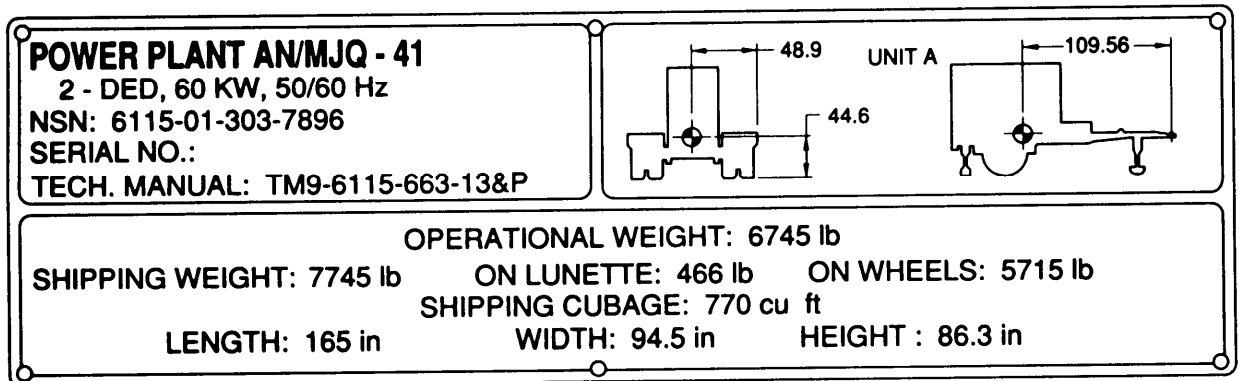
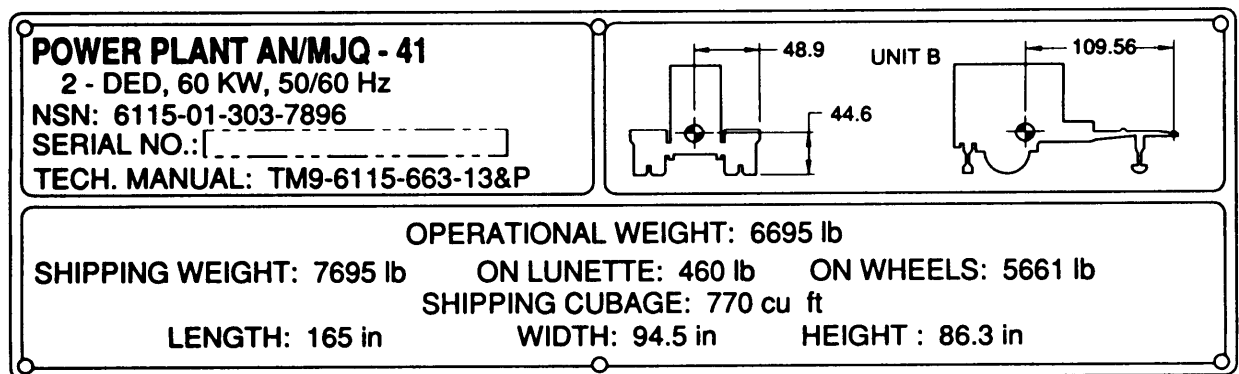

Figure 2-12. AN/MJQ-41 Unit A Identification/Transportation Data Plates.
Figure 2-13. AN/MJQ-41 Unit B Identification/Transportation Data Plates.
**2-6.3 AN/MJQ-41 Identification Data Plate.** Refer to figure 2-12 and figure 2-13. This plate is located on the trailer body.